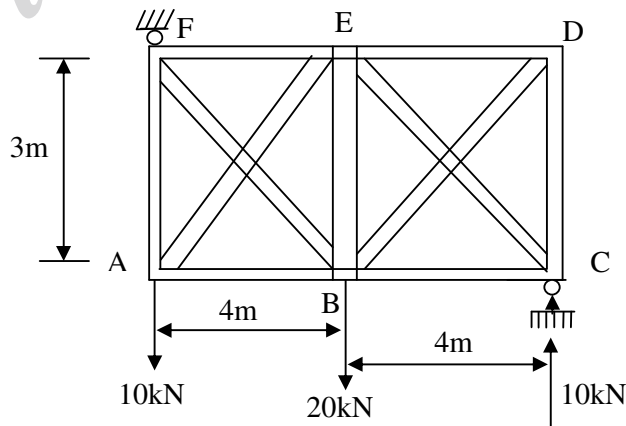

Figure 7
8. Determine (approximately) the forces in the members of the truss shown in Figure 7. The diagonals are to be designed to support both tensile and compressive forces, and therefore each is assumed to carry half the panel shear. The support reactions have to be computed. Assume all the Joints are pin joints.